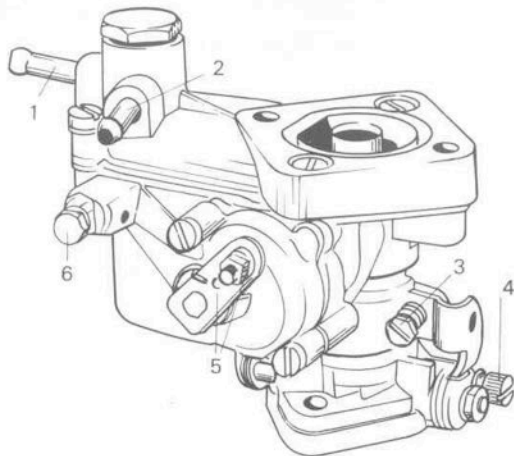

FIG 2:6 External view of the carburettor showing the main features
**Key to Fig 2:6** 1 Fuel overflow return 2 Fuel inlet 3 Idling speed adjusting screw 4 Idling mixture adjusting screw 5 Choke control lever and cable attachment 6 Choke outer cable attachment